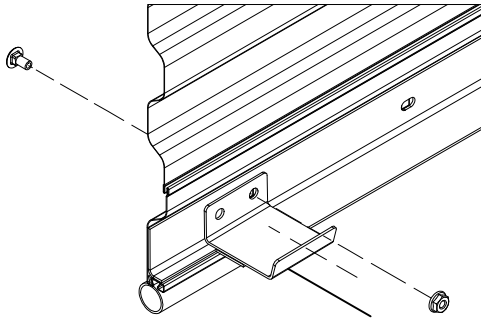

FIGURE 18:
- ▶ Install handle(s) on outside of bottom bar using $\frac{1}{4}$ - 20 x $\frac{5}{8}$ " carriage bolts and nuts. *See figure 18.*